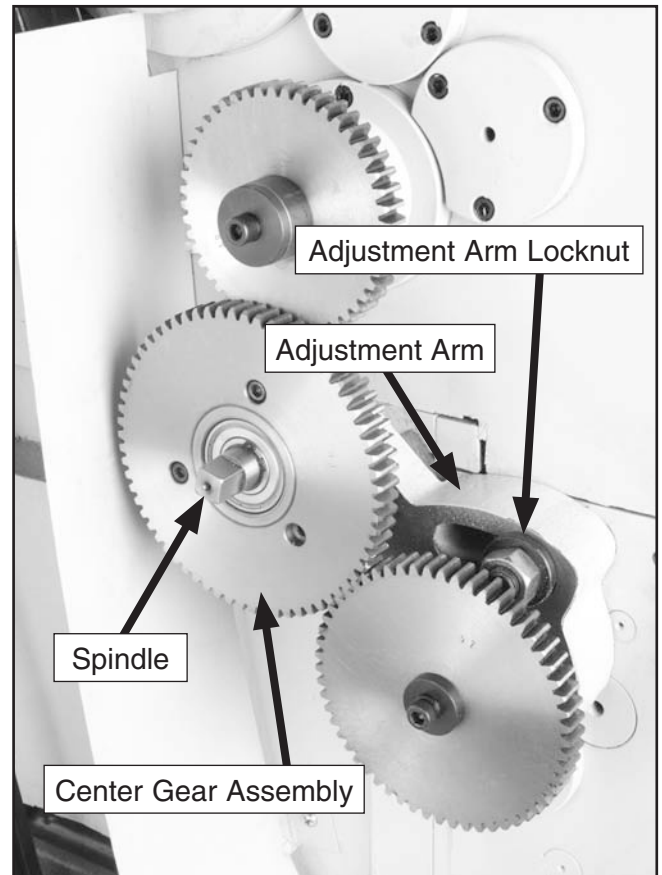

Figure 67. Center gear adjustment arm.
13. Using a 24mm wrench, loosen the adjustment arm locknut (**Figure 67**), and let the adjustment arm swing away.